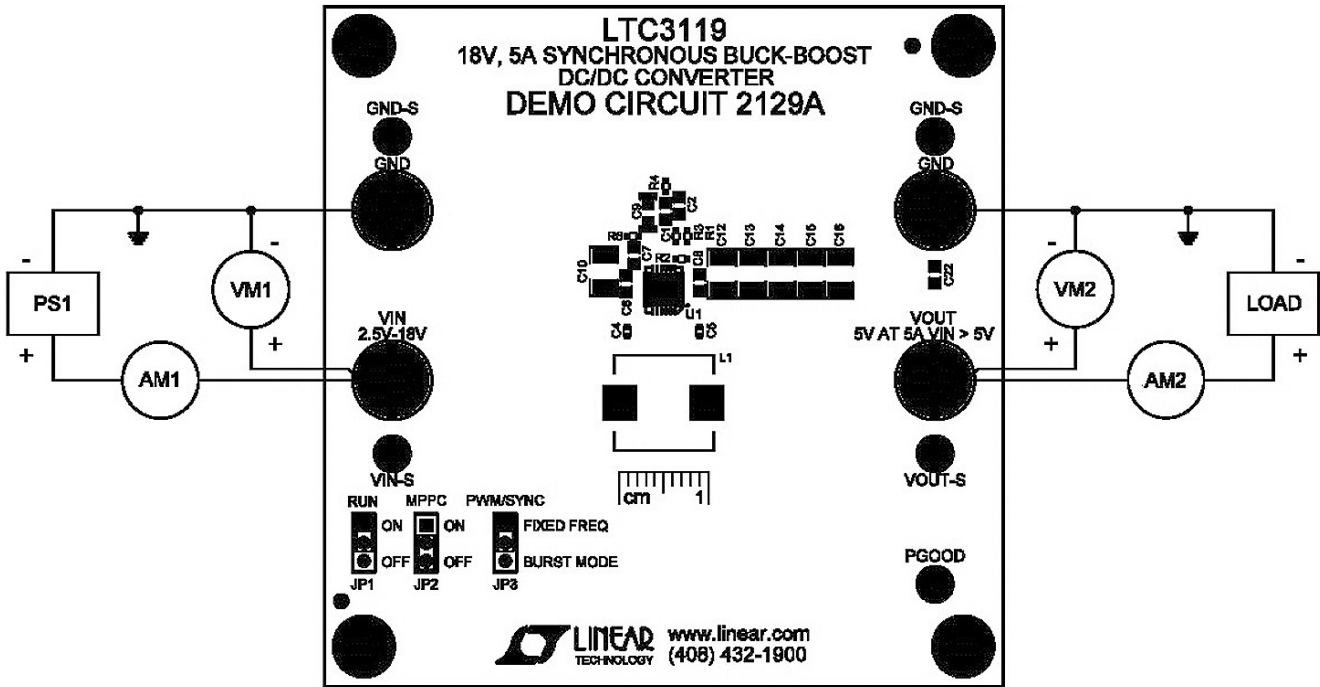

Figure 5. Measurement Setup
Using short twisted pair leads for any power connections and with all loads and power supplies off, refer to Figure 5 for the proper measurement and equipment setup. The power supply should not be connected to the circuit until told to do so in the procedure below.
2. With power OFF connect the power supply as shown in Figure 5. If accurate current measurements are desired (for efficiency calculations for example) then connect an ammeter in series with the supply as shown. The ammeter is not required however.
3. Connect the load to V_{OUT} as shown in Figure 5. Again, connect an ammeter if accurate current measurement or monitoring is desired.